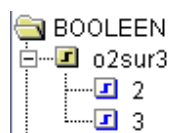

Figure 99 : Operators – Versions tree structure
- Click  to access the versions tree structure of the selected model (Figure 99),
- ♦ Click  to access tree structure versions model (Figure 99),